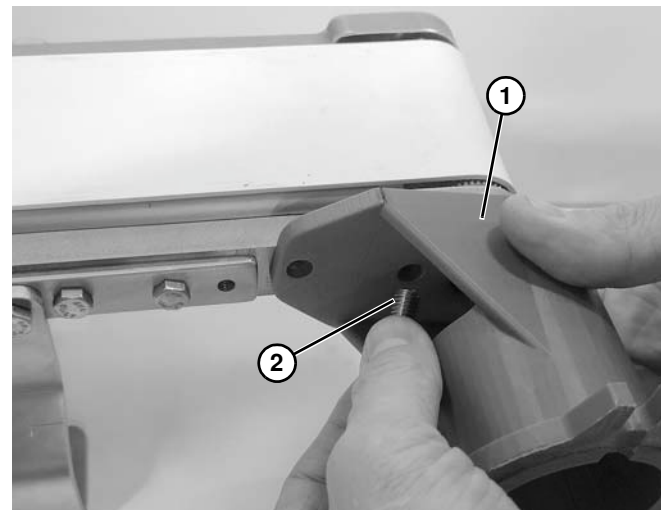
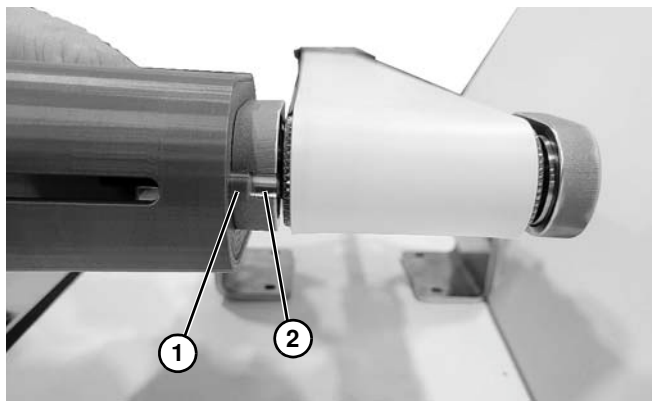

Figure 8
Figure 9
1. Install mounting bracket (Figure 8, item 1) onto drive end of conveyor with screw (Figure 8, item 2), making sure the stud (Figure 9, item 1) on the back of the mounting bracket seats into the notch in the tail plate (Figure 9, item 2).